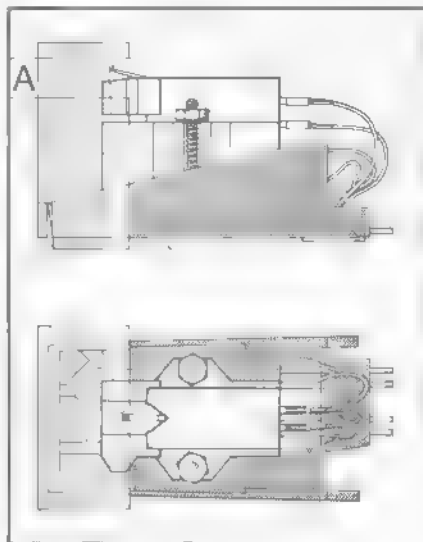

Fig. 18
3. The cartridge is correctly mounted when the notch in the mounting gauge encloses the stylus tip, and when the stylus tip, viewed from the side, is within the area (A) (Fig. 18).